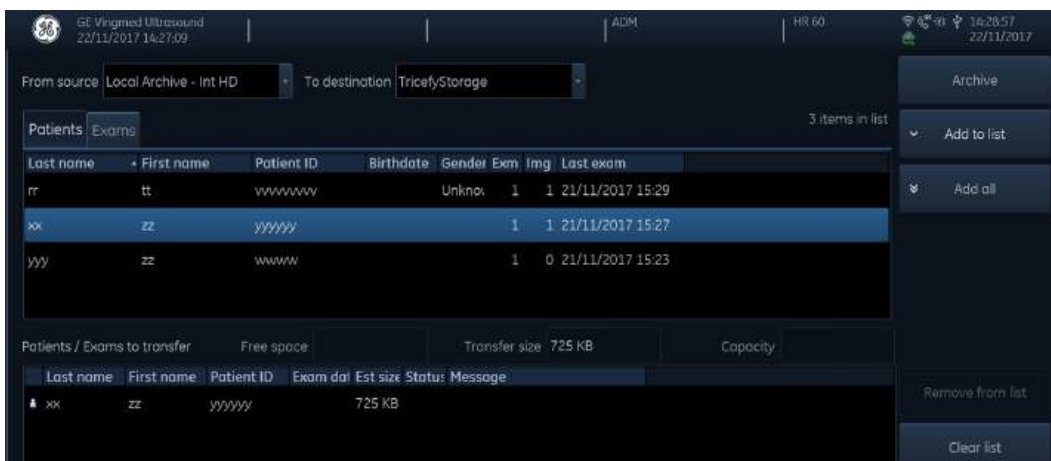

Figure 3-68. The Transfer screen
4. Press **Copy** (see Figure 3-68). The exam data is sent to the Tricefy website (https://tricefy4.com/users/sign_in).